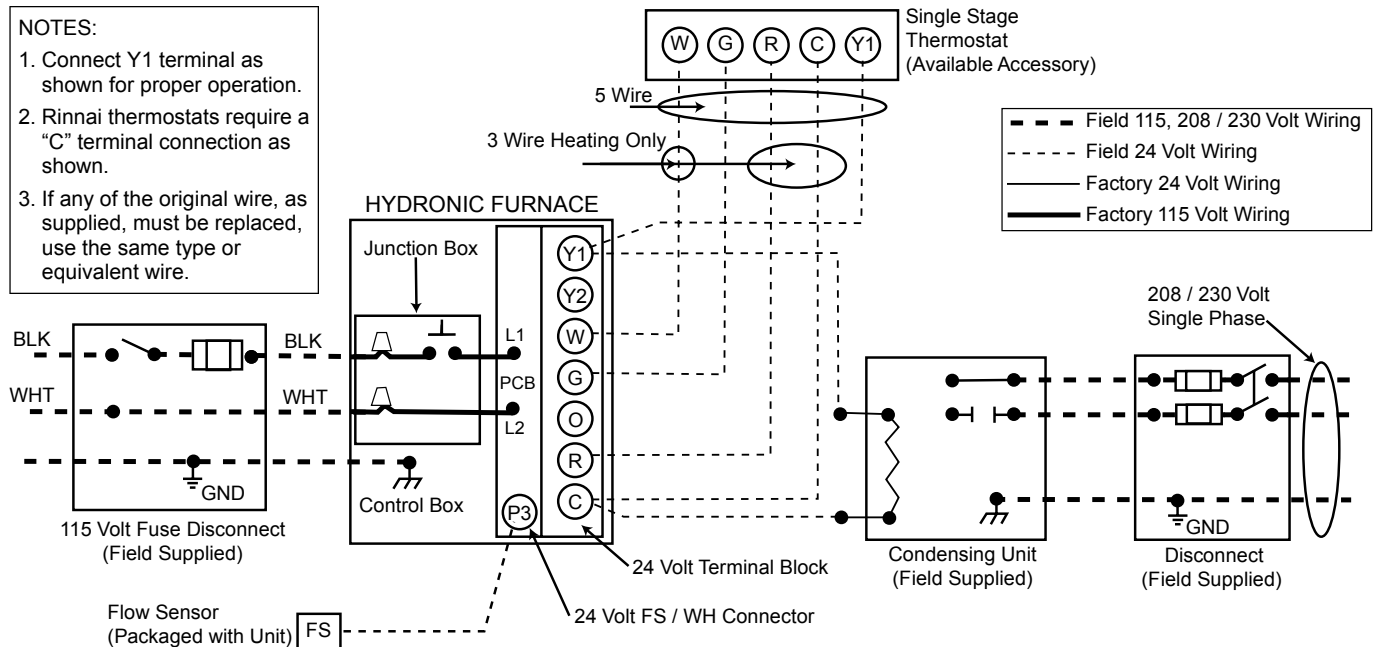

Figure 13: Field Wiring Diagram
3. Connect line voltage leads as shown in Figure 13.